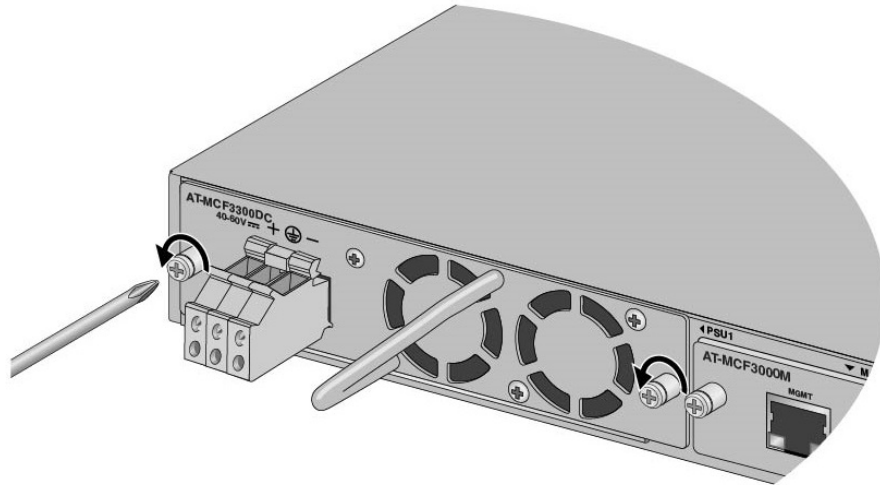

Figure 78. Loosening the Two Captive Screws on the MCF3300DC Power Supply
5. Using a cross-head screwdriver, loosen the two captive screws on the power supply. Refer to Figure 78.